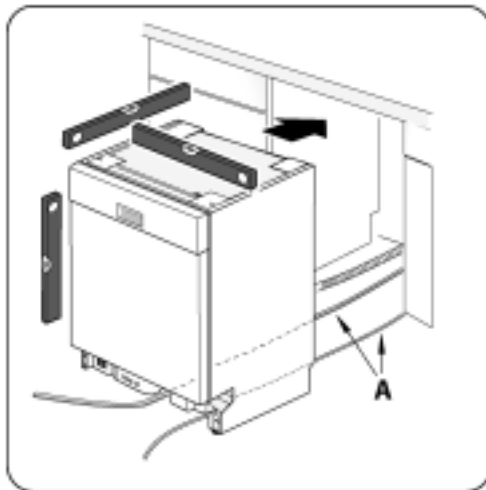
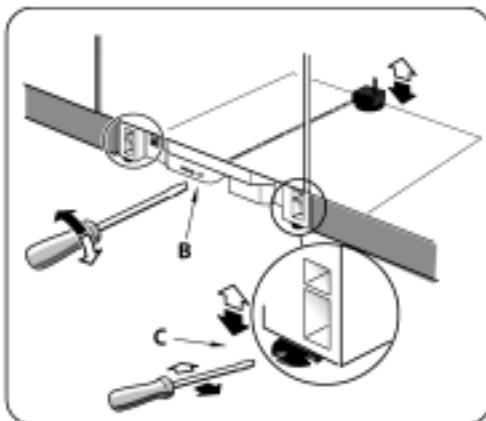
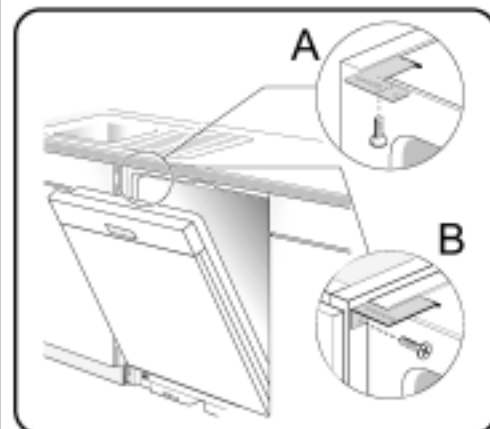

Figure 19/illus. 19
Figure 20/illus. 20
Figure 21/illus. 21
- 2) Position the dishwasher close enough to the enclosure so that you can run the dishwasher drain hose to the under sink drain connection. Make certain that the hot water supply line and the electrical supply cable are in their channels under the dishwasher base, as shown in Figure 19, letter A.
- 4) Perform a level check as shown in Figure 19. Adjust the rear leveler by turning the center screw at the front of the dishwasher, as shown in Figure 20, letter B. Turning the screw clockwise raises the rear of the dishwasher. Adjust the front levelers by turning them with a screwdriver, as shown in Figure 20, letter C. Turning the levelers to the right raises the dishwasher. If additional height is needed, shims may be added under the leveler feet.
Drive the mounting screws through the holes in the mounting brackets, as shown in Figure 20, letter A for Top Mount, or as shown in Figure 21, letter B for Side mount.